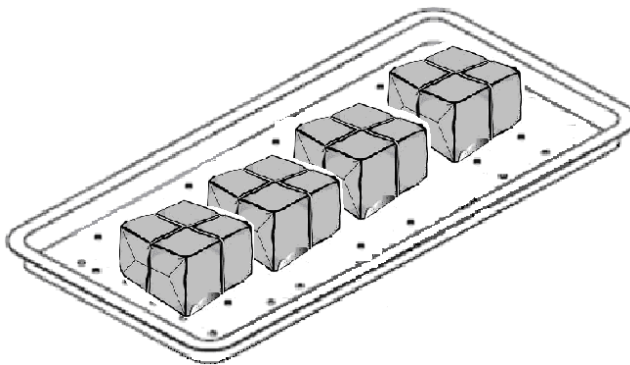

Figure 31
**Warning:** To sterilize absorbent cotton or woolen, please wrap it with a thick towel, covering cloth, linen, or sterilizing pouch to avoid piping clog according to Figure 31.